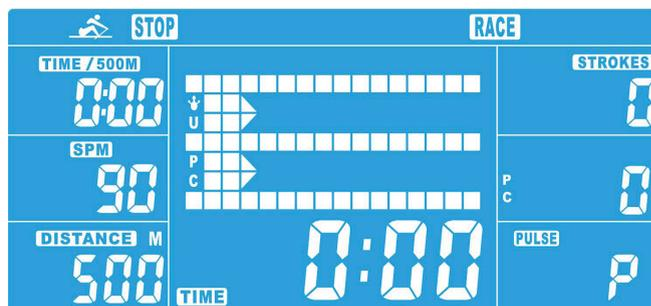

figure 11
2. Press the UP or DOWN button to set a value for SPM (the pre-set value is 10) and DISTANCE (the pre-set value is 500) (fig. 11). Confirm with the ENTER button.